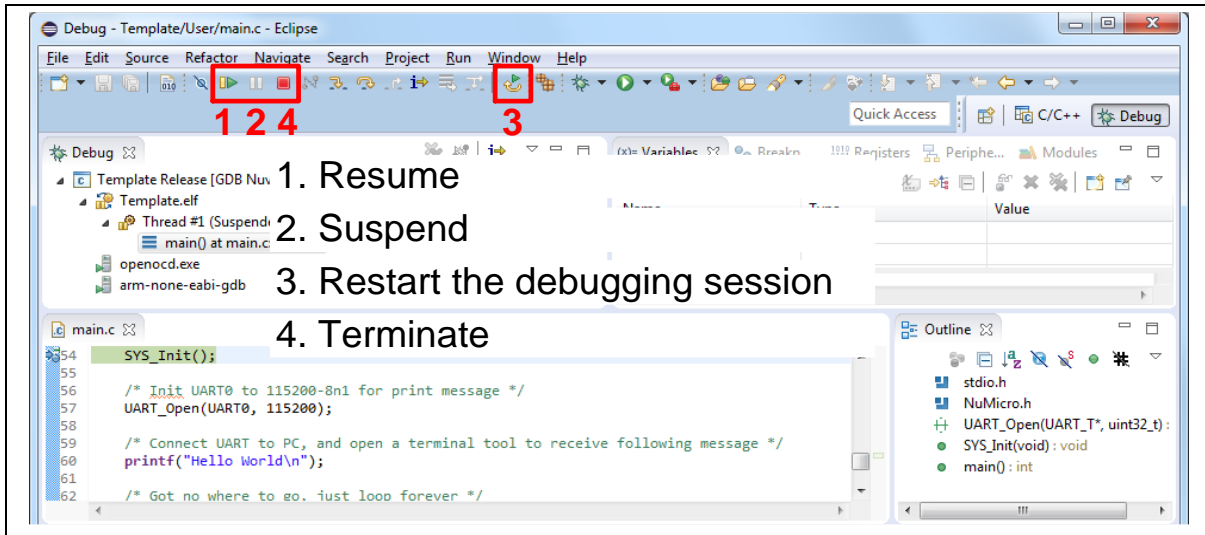

Figure 4-28 NuEclipse Debug Mode
6. Figure 4-28 shows the debug mode under NuEclipse. Click “Resume” and the debug message will be printed out as shown in Figure 4-29. User can debug the project under debug mode by checking source code, assembly language, peripherals’ registers, and setting breakpoint, step run, value monitor, etc. For more information about how to use NuEclipse, please refer to the *NuEclipse User Manual*.